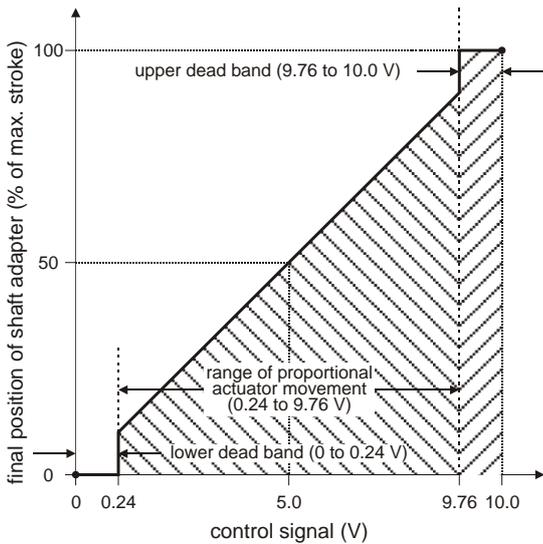

Fig. 4. Final actuator position in dependence upon control signal (example selection setting of 0...10 V)
- The control signal's value rises up into the upper dead band (i.e. to more than the max. control signal minus 0.24V) or drops down into the lower dead band (i.e. to less than the min. control signal plus 0.24V), and if the shaft adapter can remain at the respective (upper or lower) mechanical end limit at least 3 seconds, the actuator will recognize the new position automatically, and auto-adaption is happened (see Fig. 4).